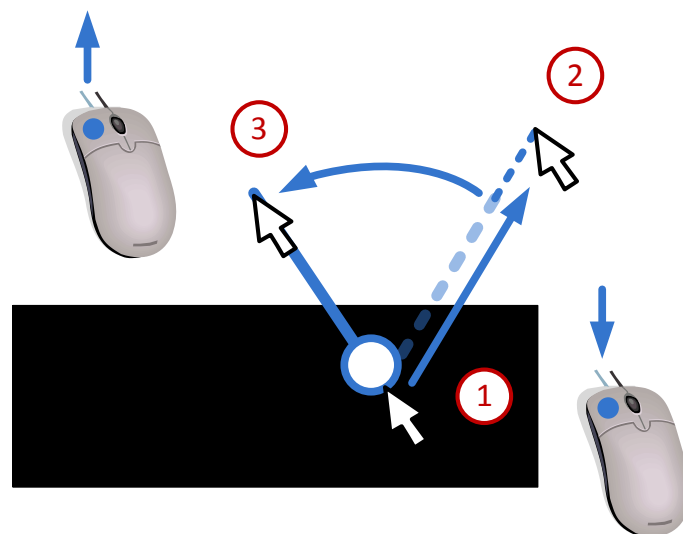

Figure 23 - Creating constraints
A constraint is created by clicking on the position in the structure where it is acting ①. While holding the mouse button down the direction of the constraint can be changed by moving the mouse around the constraint application position ②-③. Figure 23 illustrates the process of creating a constraint.